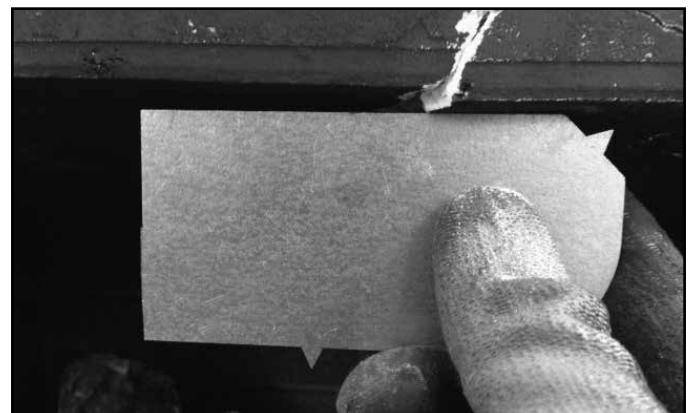

Figure 4.2. Surface plane of firebox is compromised and should be replaced.
- Cracks compromising the surface plane of the firebox. See Figure 4.2.